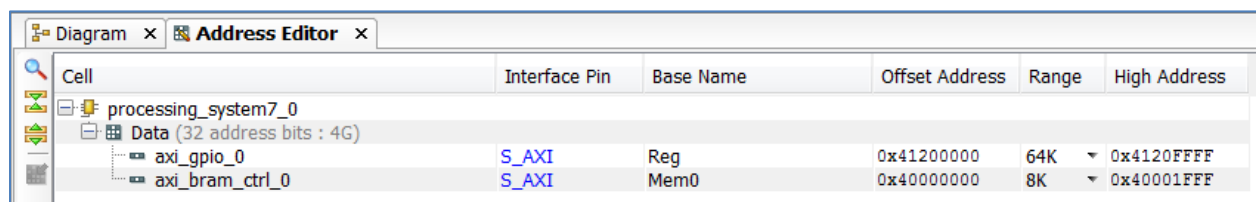

Figure 58: Memory Map the Slaves
- Click the **Address Editor** tab of the design to ensure that addresses for the memory-mapped slaves have been assigned properly. Expand **Data** by clicking the + sign (FIGURE 58).